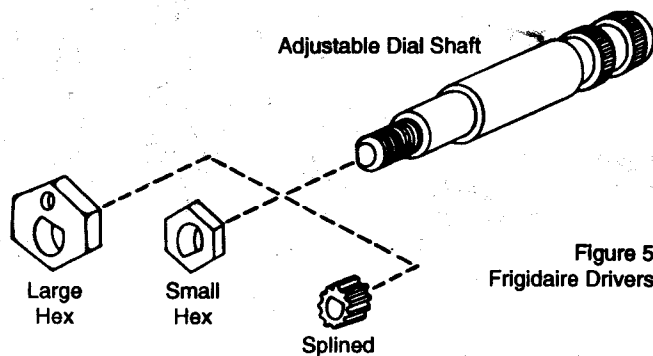

Figure 5
1. Select and insert adaptable dial shaft shown in Figure 5 to the control.
2. Select Frigidaire dial knob drivers that are similar to the original control. See Figure 5.